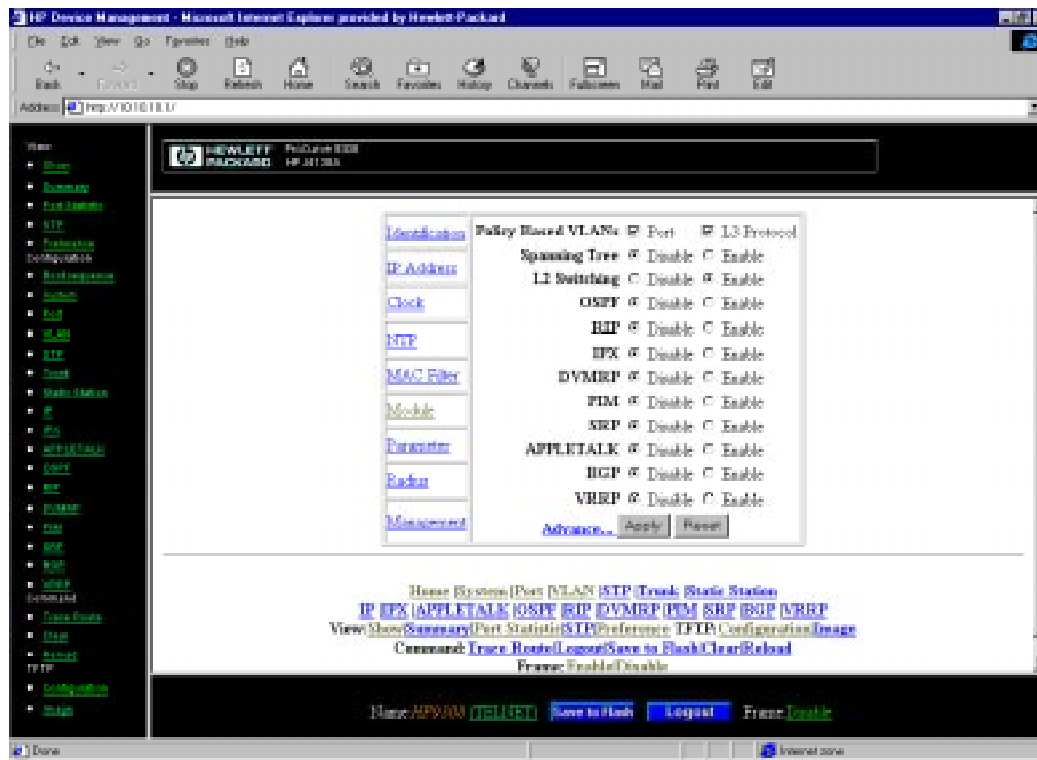

Figure 2.12 Example system configuration sheet on the Web management interface
You can access and change many of the system-level parameters, including access control parameters, from the Web management interface's system configuration sheet, shown in Figure 2.12. The Web management procedures describe how to access the system configuration sheet.
1. Select the System link to display the system configuration sheet as shown in Figure 2.12.